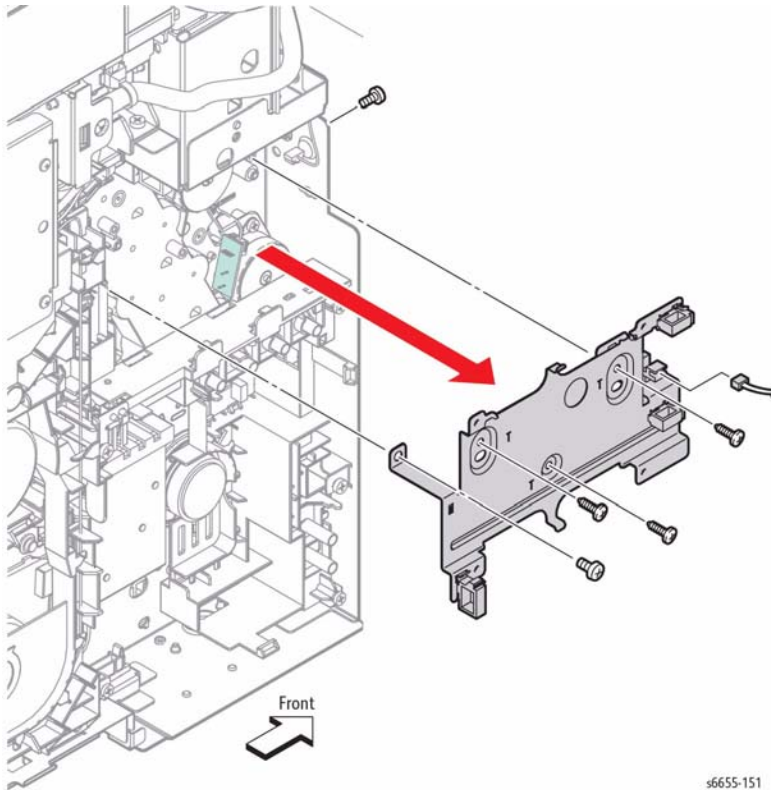

Figure 1 Remove the MCU Plate
3. Refer to Figure 1 to locate and unplug connector P/J145 of the Front Door Open Sensor (Interlock Photo Sensor).
5. Refer to Figure 1 to locate and remove the three screws (silver, tapping, 8 mm) and the two screws (silver, 6 mm) that attach the MCU Plate to the printer and remove the plate.